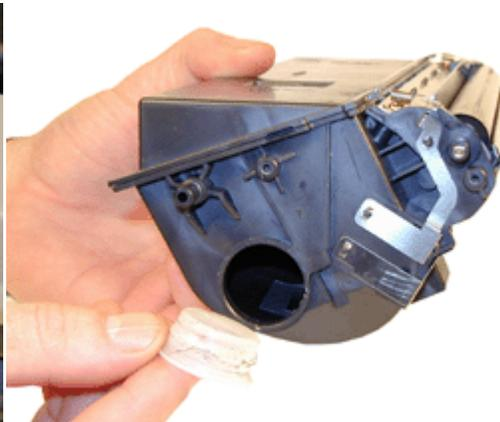

FIGURE 16
13. Remove the fill plug from the supply chamber. Dump out any remaining toner, and vacuum clean. See Figure 16